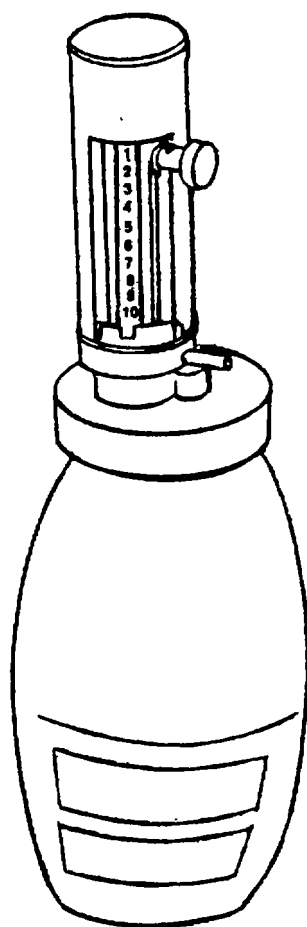

Figure 1-22. Laboratory Reagent Dispenser
n. *Laboratory Reagent Dispenser (Figure 1-22)*. The Laboratory Reagent Dispenser is a precision dispenser for almost all laboratory reagents, except HF. Very strong oxidizing acids, such as nitric acid and organic solvents at high concentrations, may cause some warping of the fluorocarbon, which could adversely affect the performance of the instrument. The fumes from organic solvents (such as toluene) may attack the magnifying indicator. Only glass and fluorocarbons contact the reagents.